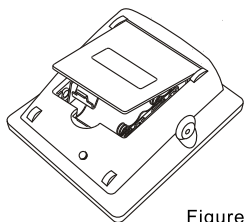

Figure 1
1. Open the battery cover. (see Figure 1).